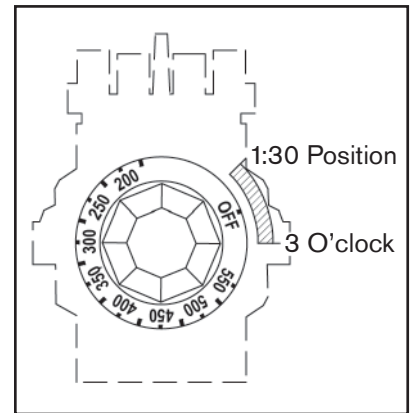

Figure 3
- 13. For the following thermostats, use Figure 3: